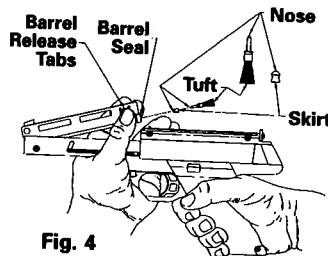

Fig. 4
- Open the barrel by squeezing the barrel release tabs until the barrel pops open as shown in Fig. 4. DO NOT PULL THE BARREL UPWARD BEYOND THIS POINT. This could damage your air pistol.
- Insert a .177 caliber pellet or dart, nose first into the barrel. Fig. 4. Use ammo seater (included in owner's manual packet) to push pellet or dart until shoulder of ammo seater is flush with barrel seal.